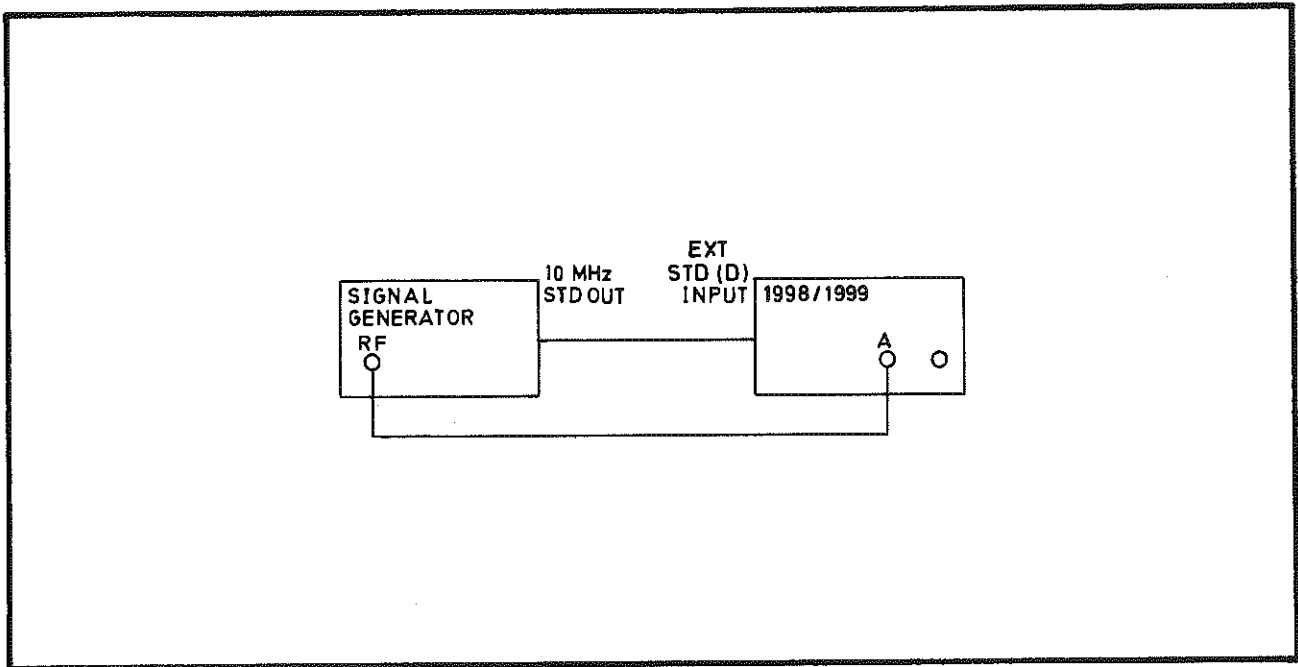

Fig 7.19 Connections for the Channel A Sensitivity PVP
- (1) Switch on the 1998/1999. Select 50Ω on the A channel. Turn the SENSITIVITY control fully clockwise.
- (2) Connect the test equipment as shown in Fig 7.19. Check that the EXT STD indicator lights.
- (3) Set the signal generator output to the frequencies shown in Table 7.5 in turn. Set the 1998/1999 resolution to the corresponding value.
- (4) At each frequency, determine the minimum input level to the 1998/1999 which gives stable counting. Verify that this is not more than the level shown in the table.
- (5) Disconnect the test equipment.